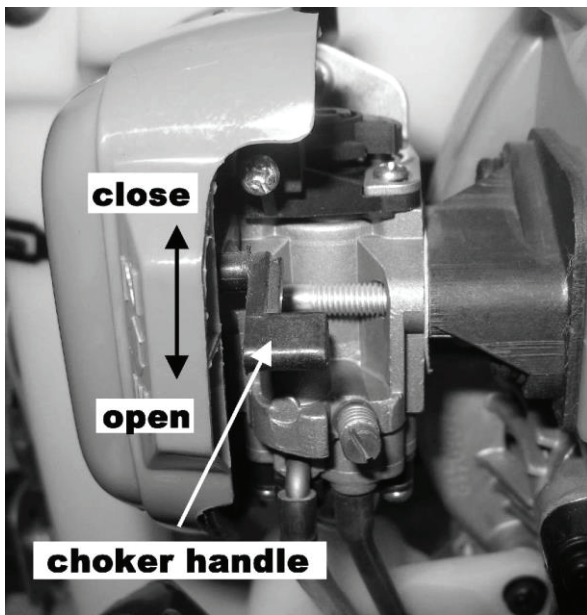

Figure 4
5.3.2 Regulate the choke (see Figure 4) to the closed position to start and then move to the full open position when the engine is hot.